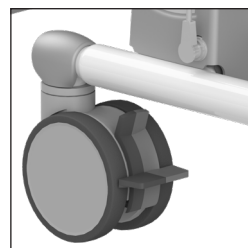

Figure 2. Direction wheel.
- The Reflex XL/Reflex XXL comes standard with a directional wheel mounted on the left front (See figure 2). The direction